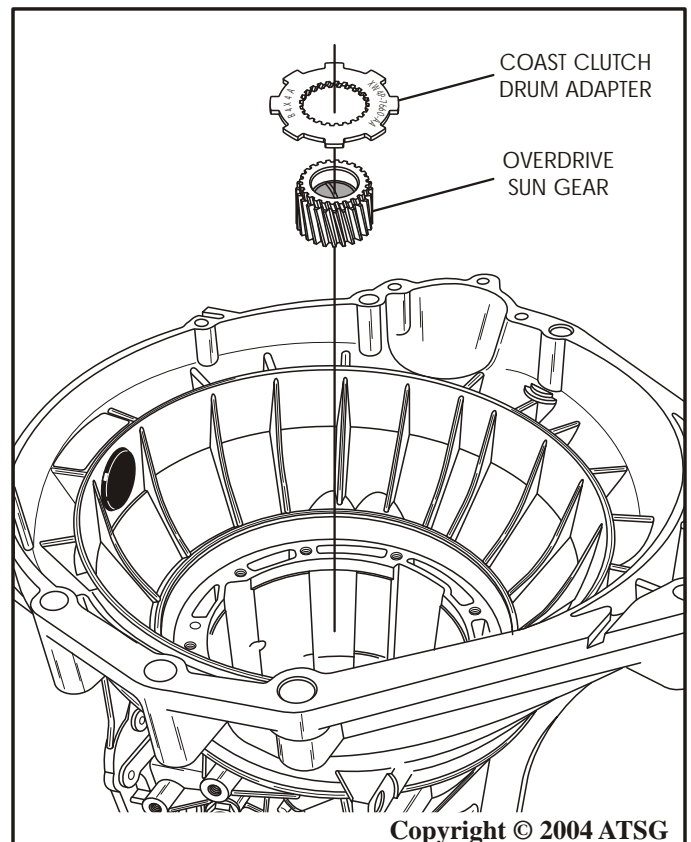

Figure 39
33. Remove the coast clutch drum adapter and the overdrive sun gear from the overdrive carrier, as shown in Figure 39.